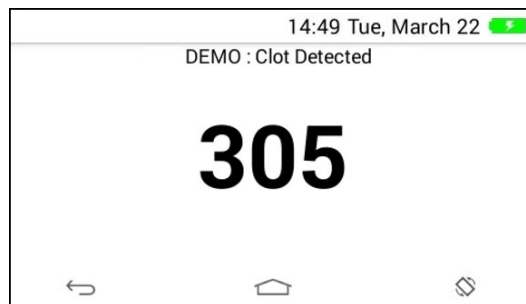

Figure 20 – Demo: Clot detected
- e) When clotting is detected, the test result is displayed as activated clotting time (ACT) in seconds. See Figure 20. At this point, the Operator could view more details about the test.